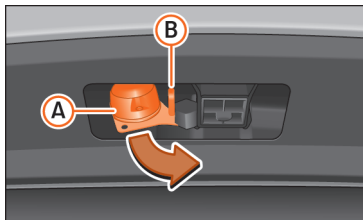

Fig. 177 Turning the 13-pin connector
- Grip the connector in area **A** and remove it in the direction of the arrow »» Fig. 177.
- Open the cover of connector **A** and connect the trailer »» Fig. 177.
- Hook the trailer's pair cable to the safety lug »» Fig. 177 **B**. When hooked up, the pair cable should have some **slack** in all vehicle towing positions [sharp curves, reverse, etc..].